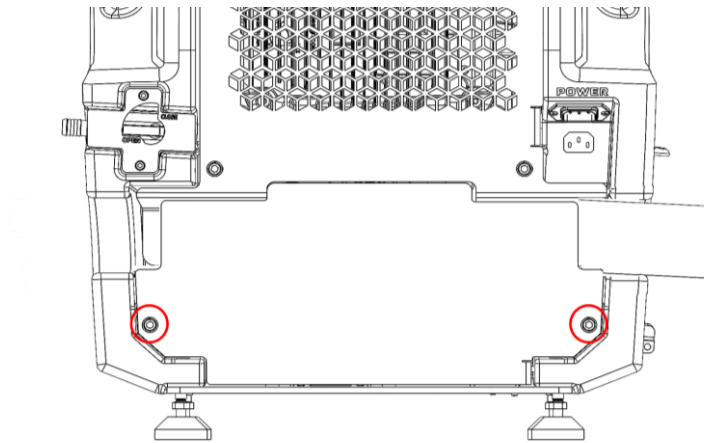

FIGURE 2-12
5. Mount the back plate and place the screws and washers into position with the 5 mm Allen key (Fig. 2-12).